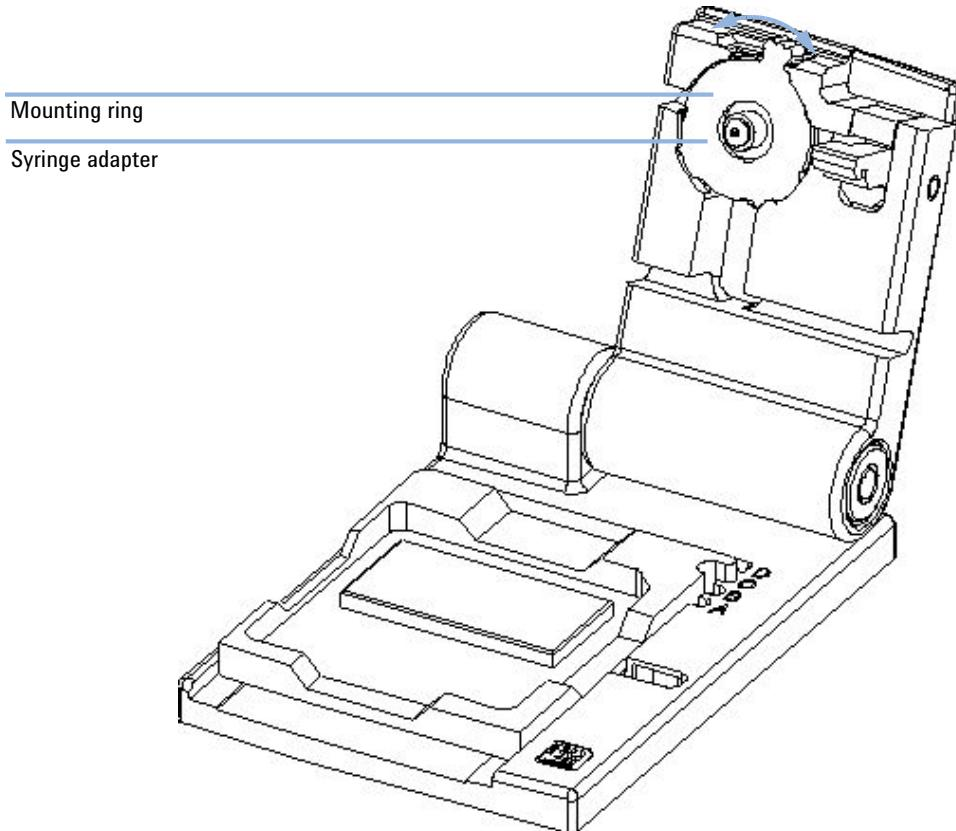

Figure 4 Mounting ring of the syringe adapter
- 2 Move the mounting ring holding the adapter in place to the left as shown in Figure 4 on page 134. The ring will come off.